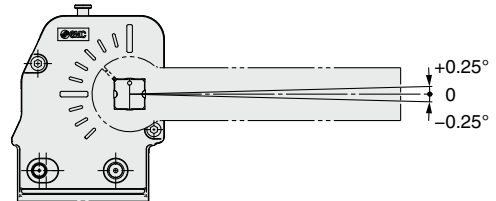

Figure 1
- 2) This product is designed to be used after being externally adjusted using a shim, and there is a mechanical difference of  $-0.25^\circ$  to  $+0.25^\circ$  at the clamping end as shown in Figure 1.